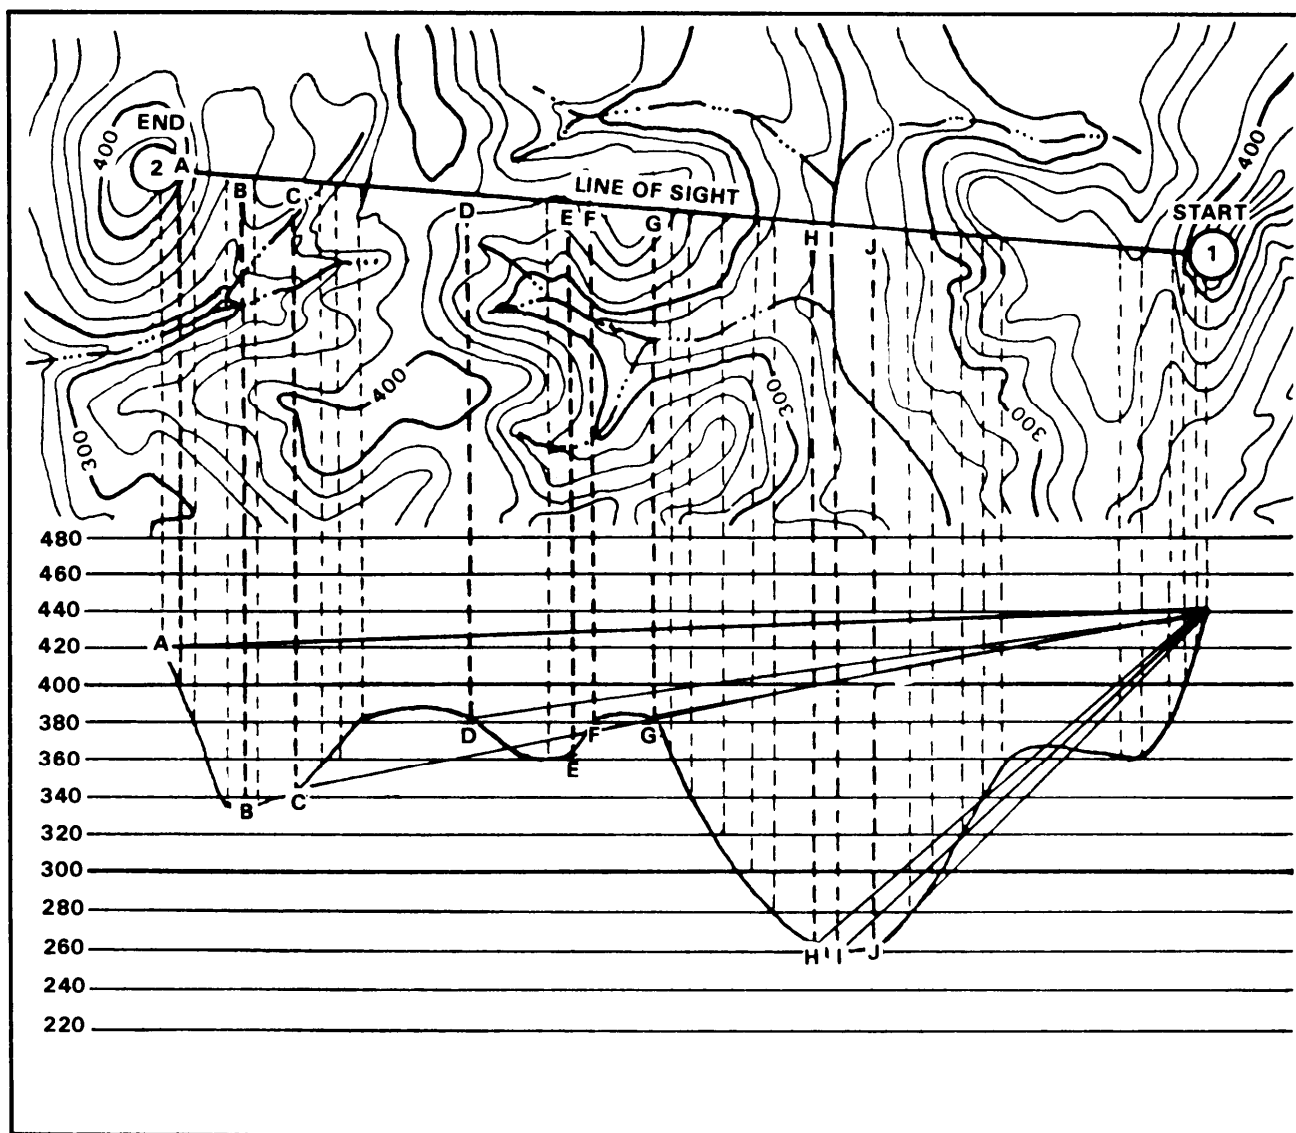

Figure 6-29. Terrain profile.
(3) Connect all the points with a smooth curve (Figure 6-29).